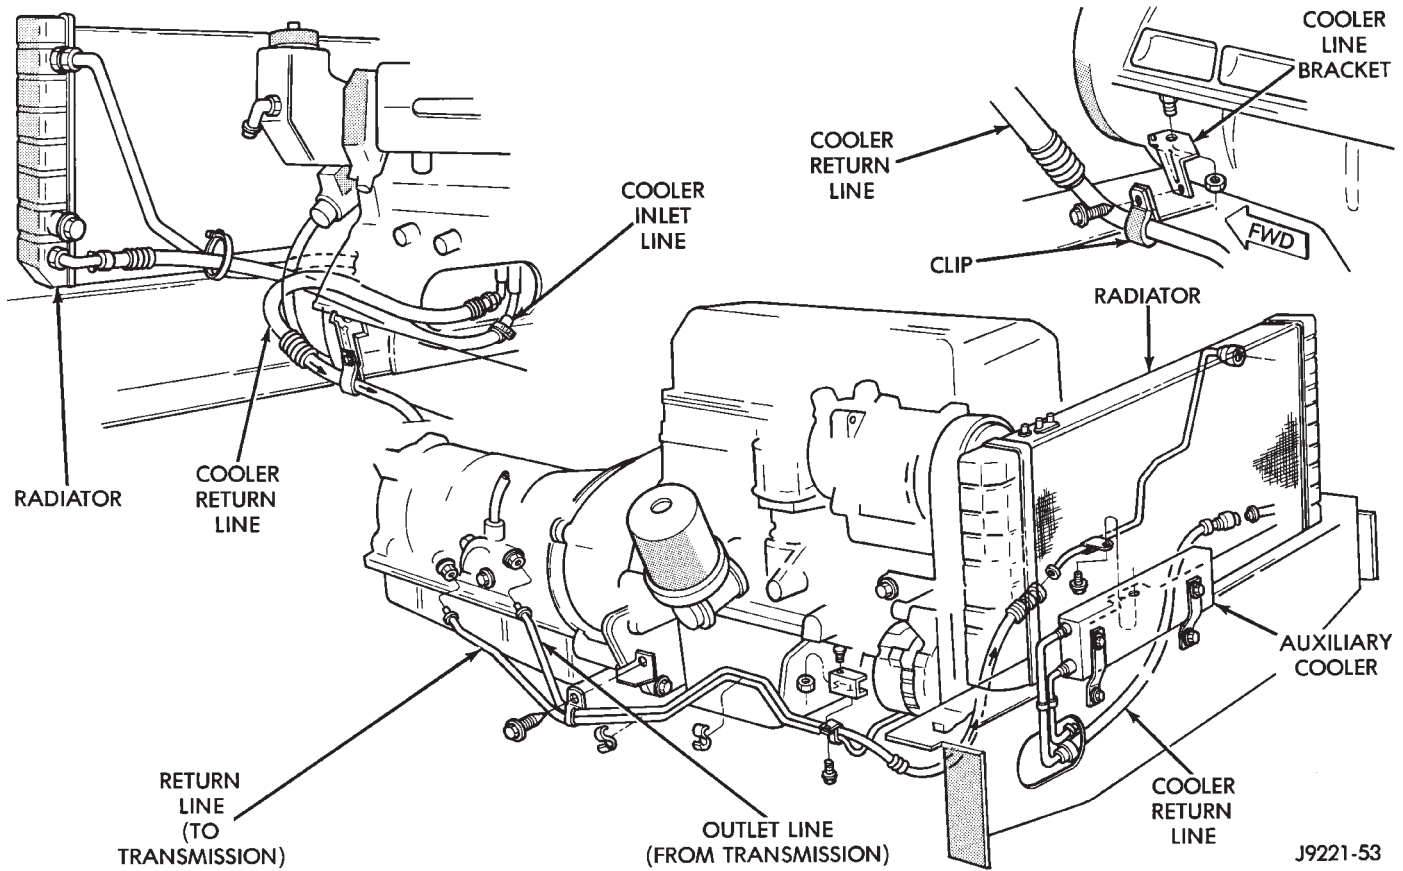

Fig. 48 Auxiliary Cooler Mounting (Left Hand Drive)
The auxiliary cooler is mounted in front of the radiator at the driver side of the vehicle (Fig. 48). The cooler can be flushed when necessary, while mounted in the vehicle. The cooler can also be removed for access, repair, or replacement as needed.
- (1) Disconnect cooler lines at transmission and at auxiliary cooler (Figs. 48 and 49).
- (2) Position drain pan under cooler line to catch material flushed through coolers and lines.
- (3) Reverse flush each cooler using hand operated suction gun filled with mineral spirits. Insert gun nozzle (or hose) into cooler inlet (return) line. Then force mineral spirits through into line and through cooler.
(4) Continue reverse flushing until fluid exiting inlet (pressure) line is clear and free of debris/residue.
(5) Replace radiator if fluid cannot be pumped through main cooler. Replace auxiliary cooler if leaks are evident, or if fluid cannot be pumped through it.
(6) Clear flushing materials from coolers and lines with short pulses of compressed air. Insert air gun nozzle into cooler inlet (return) line and continue short pulses of air until all fluid is cleared from cooler and lines.
(7) Pump one quart of fresh automatic transmission fluid through cooler and lines before reconnecting cooler lines.